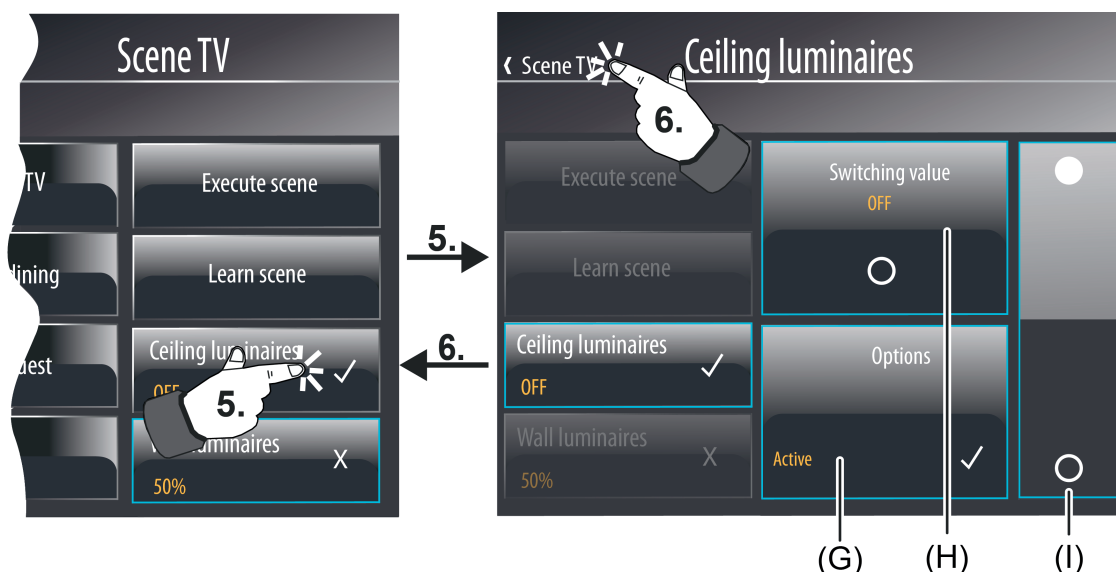
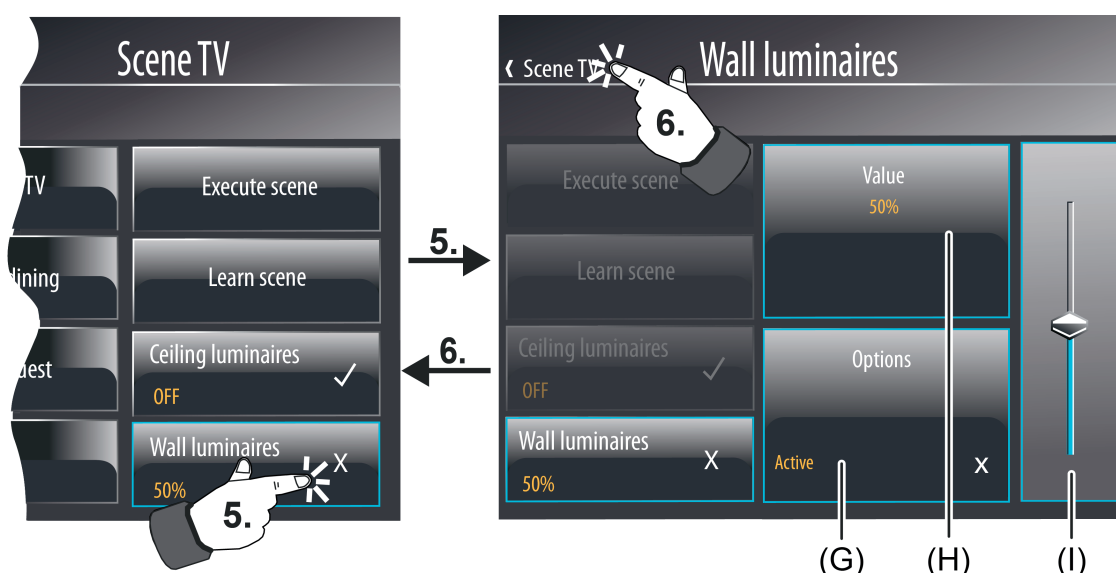

Figure 82: Example of a scene configuration page (right) - scene function "Switching"
Figure 83: Example of a scene configuration page (right) - scene function "Value"
With the data type "1-bit switching" (figure 82) a display area with status text and icon (H) is visible and an operating area for presetting the scene switching command (I) by a rocker switch. With the data types "1-bit value" and "2-bit value" (figure 83) the display area is only characterised with a status value (H). If this display area is pressed long (approx. 1 second), the device displays an on-screen keyboard. A new scene value can be preset directly by means of this keyboard. Alternatively, new scene values can be preset by the value slider in the operating area (I).